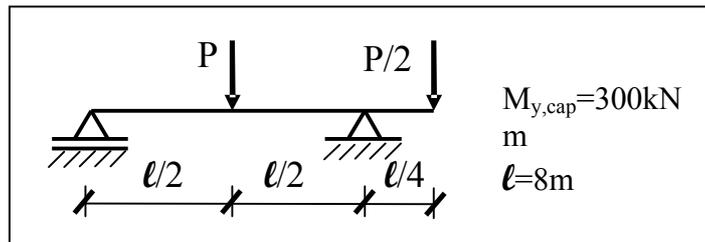

Fig. 1
02) The capable load (capable force;  $P_{cap}$ ) for the beam represented in Fig. 1 is: